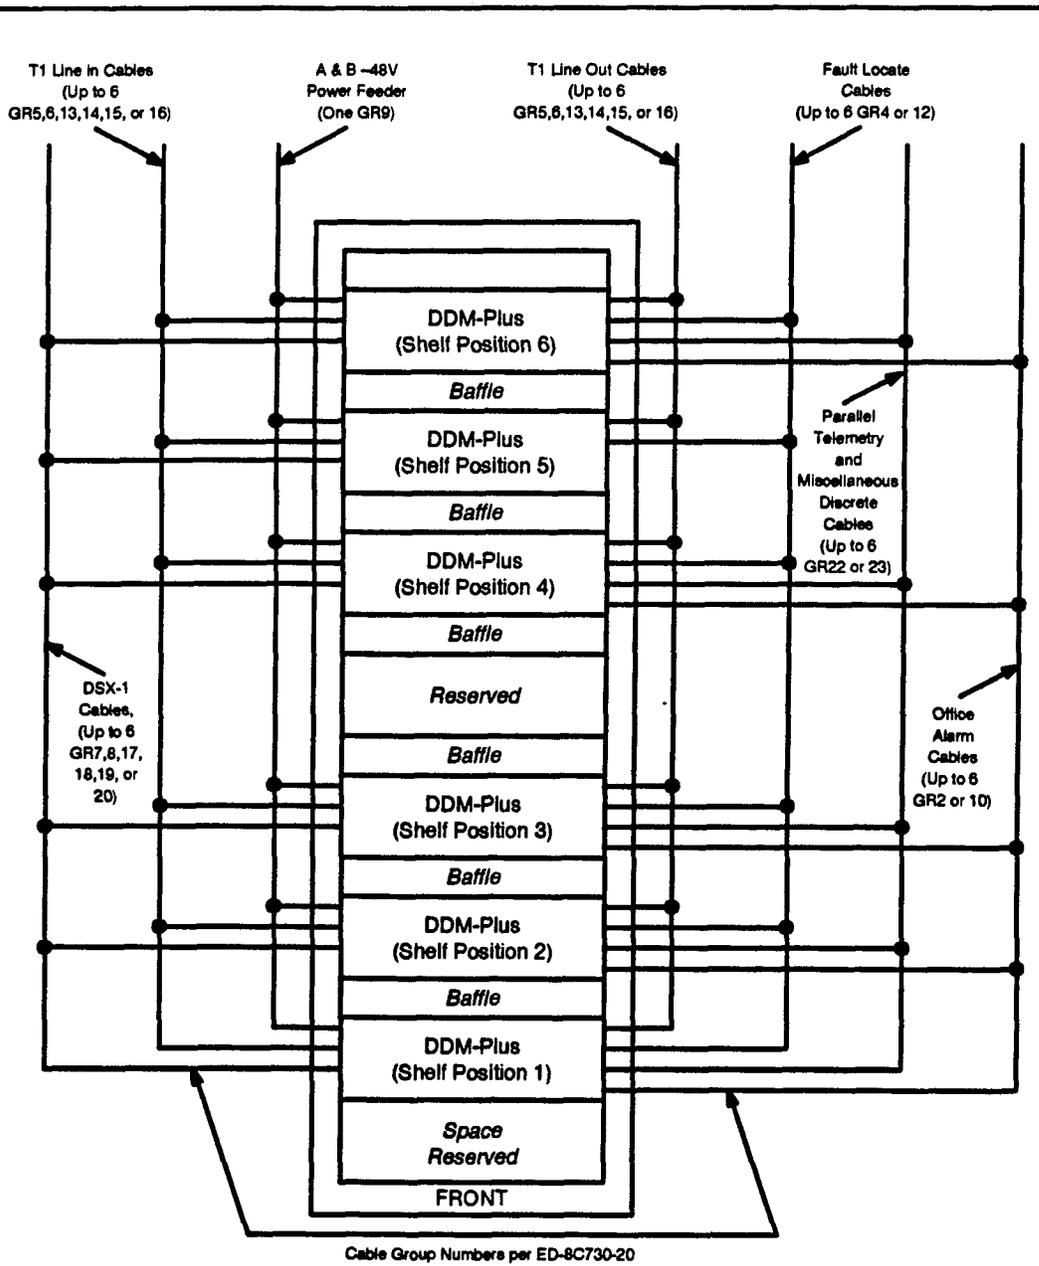

Figure 1. Typical Bay Arrangement for DDM-Plus Configuration Per ED-8C730-10
Although each shelf is ordered separately and may be mounted as a stand-alone or miscellaneous mount item, suggested "typical" bay arrangements are provided per ED-8C730-10 that gives complete engineering information and fits traditional central office design criteria. Figure 1 shows the typical bay arrangement per ED-8C730-10.
4. A heat baffle assembly should be ordered with each shelf assembly, as shown in Figure 1, except for the top shelf in a 7-ft. bay arrangement. When the 7-ft. layout is mounted in 9- or 11-ft. 6-in. bays, a baffle should also be ordered for the top shelf (see ED-8C730-10 for complete bay assembly information).
Although DDM-Plus shelves are normally ordered as stand-alone entities, typical bay arrangements can be locally engineered and installed per Figure 1.
Figure 1 provides a typical bay arrangement (ED-8C730-10) for up to six DDM-Plus shelves. This arrangement meets network equipment building system (NEBS) central office requirements for bay heat dissipation. Although additional space is available in the bay, it should not be used for miscellaneous equipment if the NEBS requirements are to be met. In addition, if other than the typical arrangements are used, normal heat flow could be interrupted and adversely affect shelf operation. Heat baffles must be placed as indicated to guarantee proper air circulation. Although the typical bay figure reflects 7-foot bay arrangements, 9-foot or 11-foot 6-inch bays may be used providing the shelf arrangements are identical to those shown for the 7-foot arrangements.